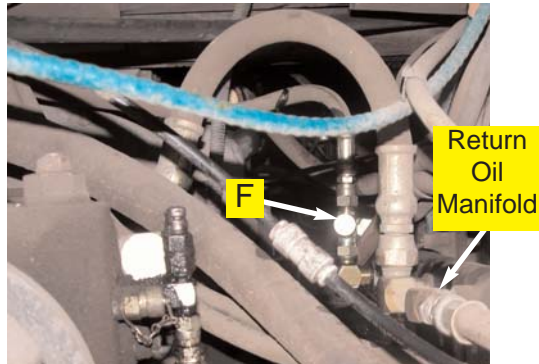

Figure 3f. Installed run tee.
- f. Install one of the run tees (F) in the return oil line. (Figure 3f.)